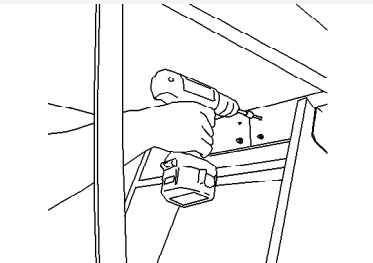

fig. 13
5. From a step ladder or saw stool or similar (not the attic stair), fix the hinge end of the stair to the ceiling framing through the two outer predrilled holes in the hinge plates (figure 13). Use the 65mm Timbertight screws supplied or something similar. Do not fit tight yet.